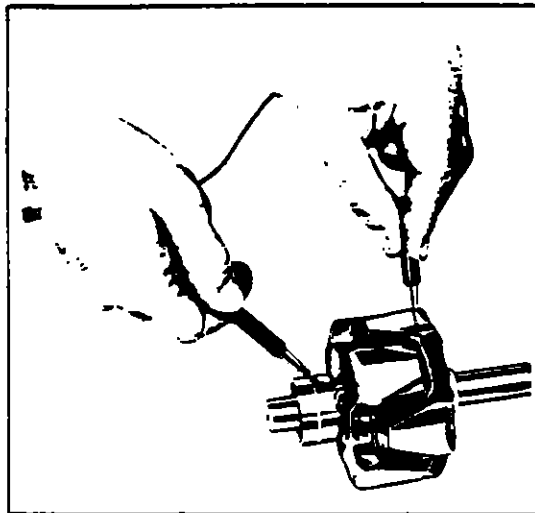
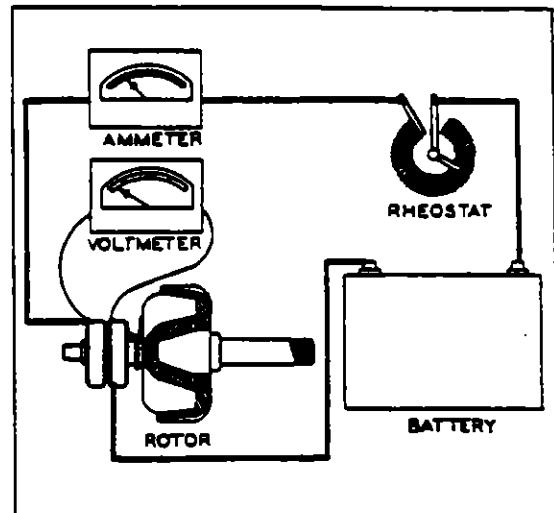

FIGURE 9-27g. TESTING ROTOR FOR GROUNDS
FIGURE 9-27h. TESTING ROTOR FOR SHORTS
a. **Rotor:** The rotor should be tested for grounded or shorted windings. The ground test can be made with test probes, connected in series with a 110-volt test lamp, an ohmmeter or any type of continuity tester. (Refer to Figure 9-27g.) There must not be any continuity between the slip rings and the rotor shaft or poles. To test for shorted turns in the rotor winding, connect a voltmeter, ammeter and rheostat as shown in Figure 9-27h, or use an ohmmeter. Rotor current draw and resistance are listed in the individual specification pages. Excessive current draw or a low ohmmeter reading indicates shorted windings. No current draw or an infinite ohmmeter reading would indicate an open winding.